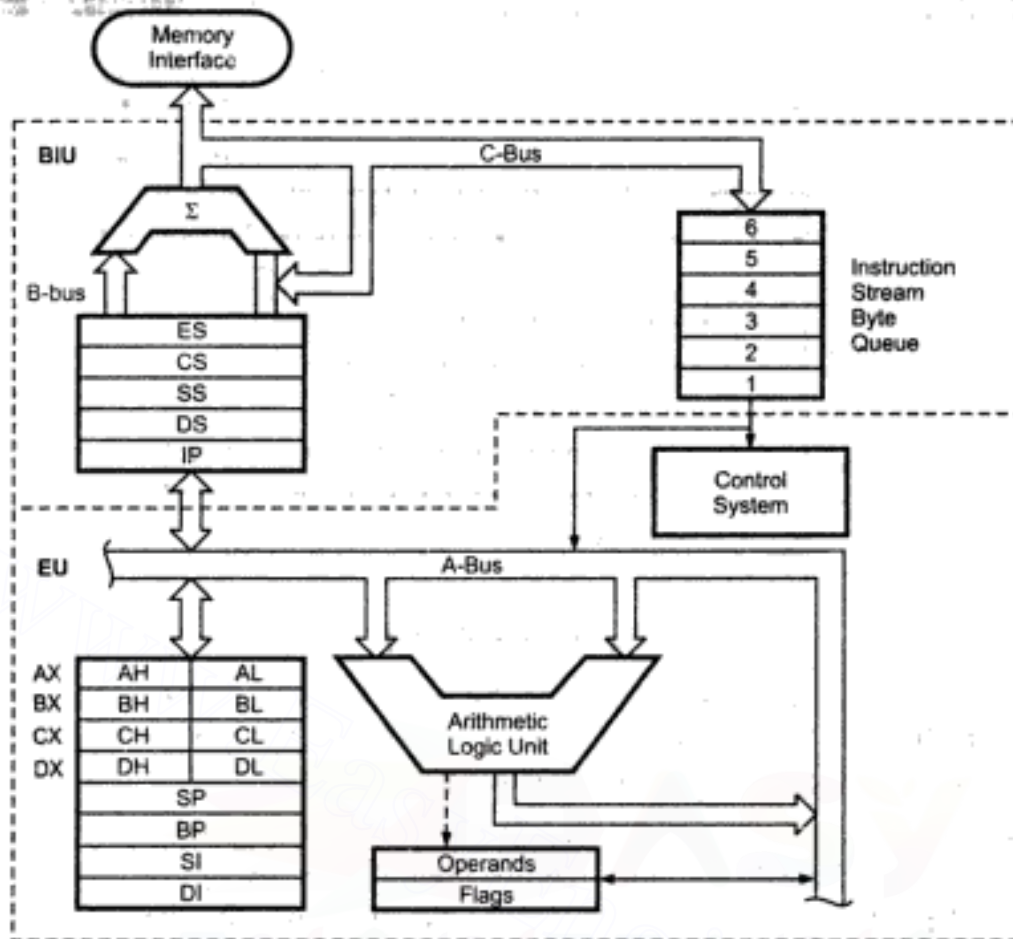

Fig. 2.2 8086 internal block diagram
Fig. 2.2 shows a block diagram of the 8086 internal architecture. It is internally divided into two separate functional units. These are the Bus Interface Unit (BIU) and the Execution Unit (EU). These two functional units can work simultaneously to increase system speed and hence the throughput. Throughput is a measure of number of instructions executed per unit time.